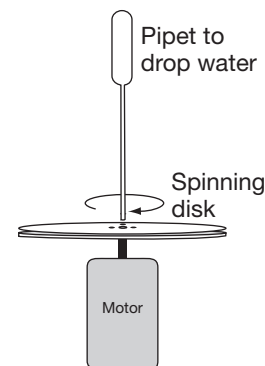

Figure 3.
- Start the motor running and watch the disk rotate around in a circle. Using a Beral-type pipet, add a few drops of water on the center of the rotating piece of filter paper. Add additional (yet minimal) drops of water if necessary. See Figure 3. (*Note:* If water is added too quickly, water and ink can be thrown from the disk.)